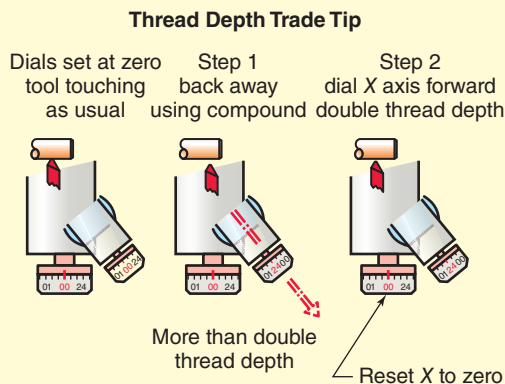

Figure 11-159 Use this trade tip to simplify threading.
Step 1 From the coordination position (bit tip touching—both dials at zero) back away on the compound axis about three times the thread depth (Fig. 11-159).